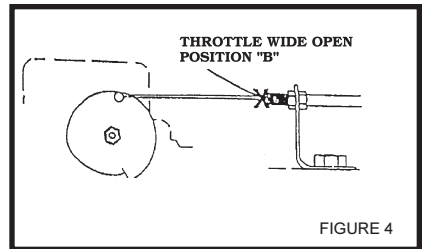

FIGURE 4
- Depress accelerator pedal and make a mark on the throttle cable when the throttle is in the wide open position. **Figure 4**
- Figure 4**